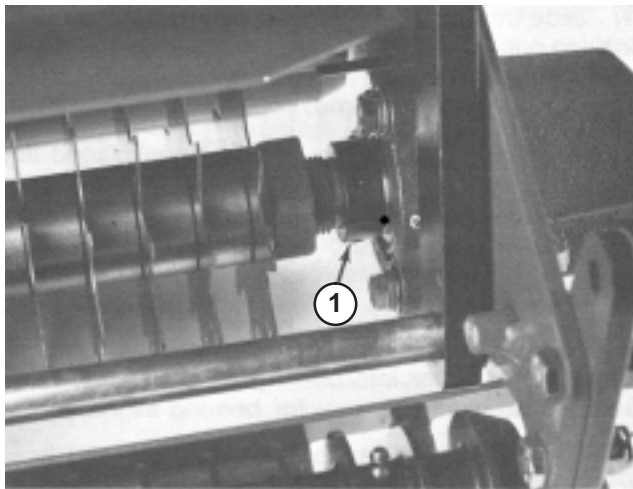

Figure 11
4. Carefully pull the dethatching reel assembly out of the frame along with the (2) reel bearings.
6. With a drive pin and hammer, loosen the locking collars by driving the locking collar in direction opposite to normal rotation (Fig. 11).